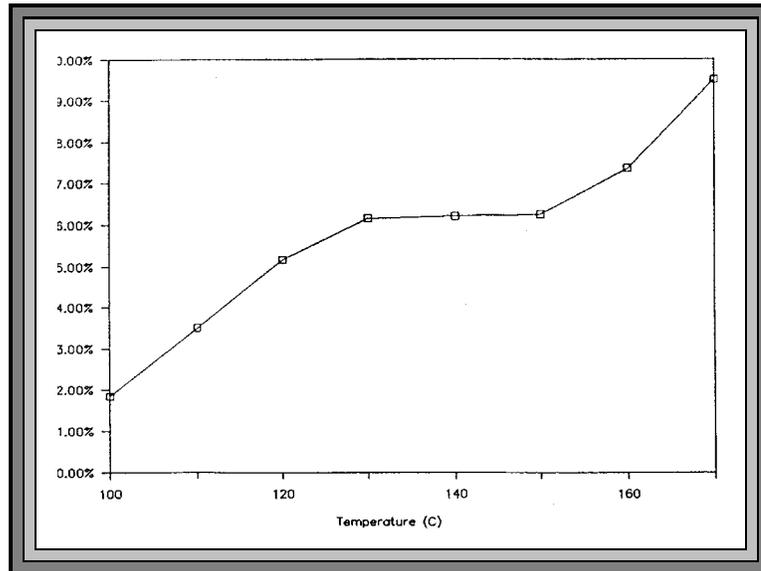

Figure 54 MOISTURE VS. TEMPERATURE CURVE
- 10.2.2 The starting temperature is usually the standard or reference method temperature for that particular sample. Results for each increasing temperature will usually rise to a plateau where several increasing temperatures do not change the results significantly. Beyond this plateau results rise dramatically, (**Figure 54**). Examination of the tested sample shows burning or charring.